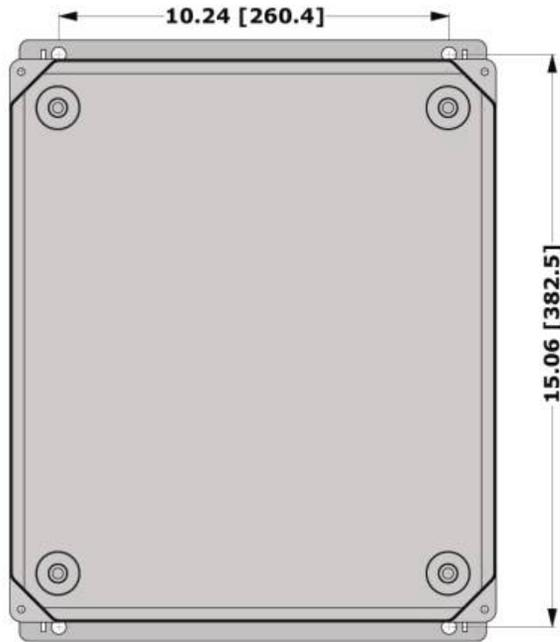

Figure 4-1: 465H Mounting Hole Locations and Dimensions
- Figure 4-1 shows the locations of the four mounting holes.